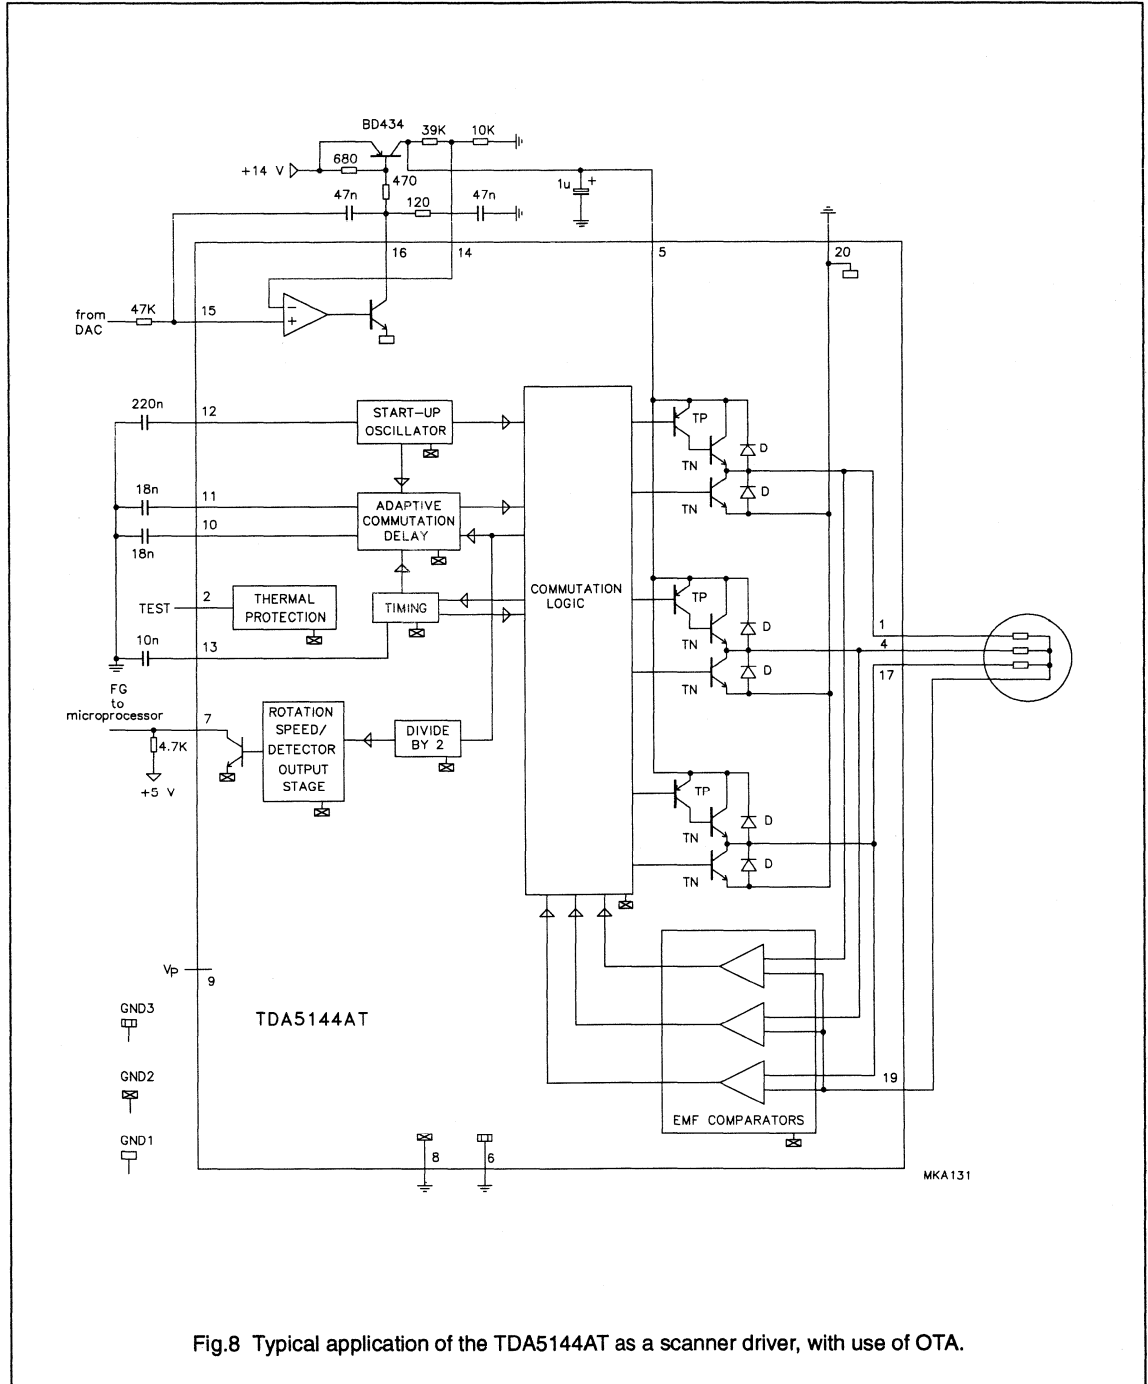

Fig.8 Typical application of the TDA5144AT as a scanner driver, with use of OTA.
Introduction (see Fig.8)
- With analog control an external control transistor is required. The OTA can supply the base current for this transistor and act as a control amplifier (see Fig.8).
An alternative method of voltage control is to increase the output impedance for a certain frequency, such as the commutation frequency; the circuit illustrated by Fig.8 uses this method. The low output impedance increases to approximately 10Ω at 900 Hz. This circuit diagram is an example of the application of the TDA5144 with a VTR scanner for a PAL recorder running at 1500 rpm. The input signal is a PWM 5 V signal. The FG signal is read by a microprocessor that runs the servo control program.